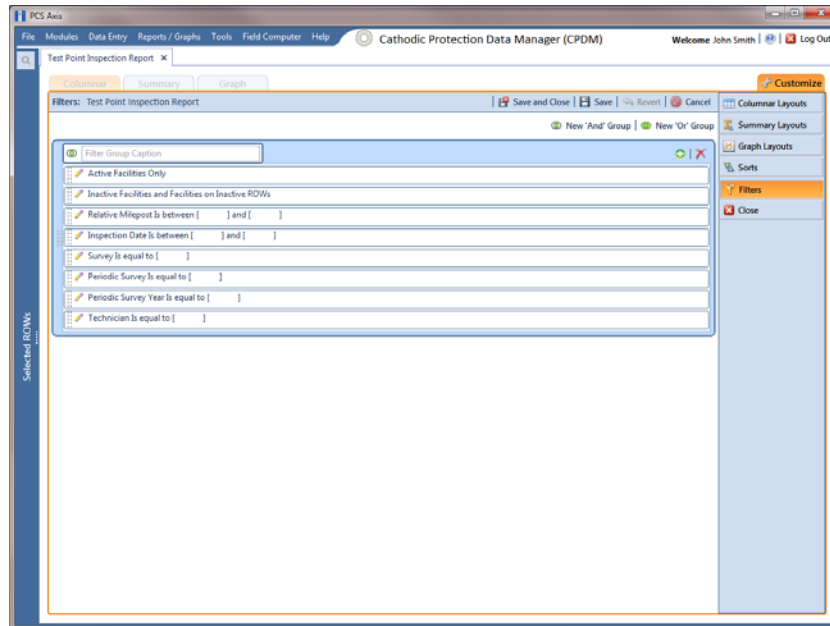

Figure 15-40. Filters
- Click the **Customize** tab  then the **Filters** button  to open the *Filters* page (Figure 15-40).